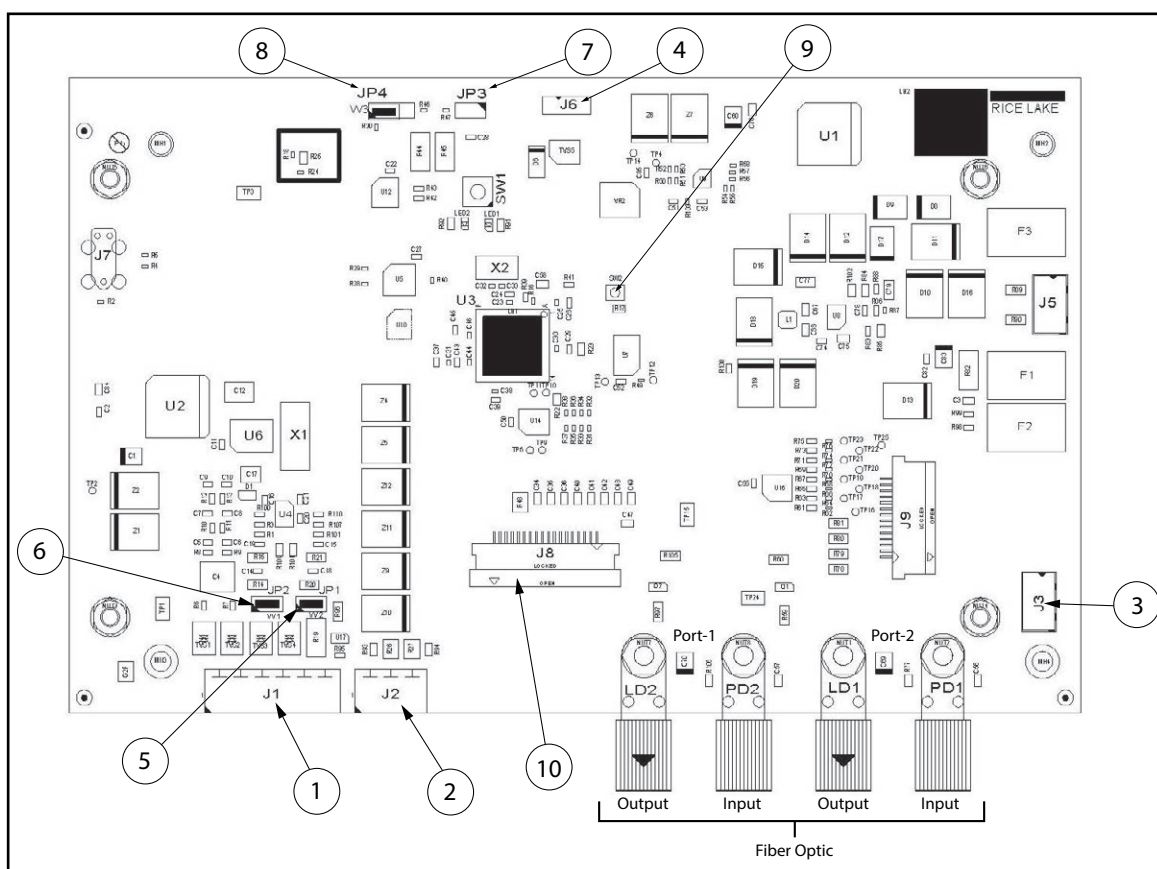

Figure 2-13. 882IS CPU Board
**NOTE:** For 4-wire installation, leave jumpers JP1 and JP2 on (Figure 2-13 on page 26). Ensure Pins 3 and 4 of J1 are left empty for a 4-wire installation.